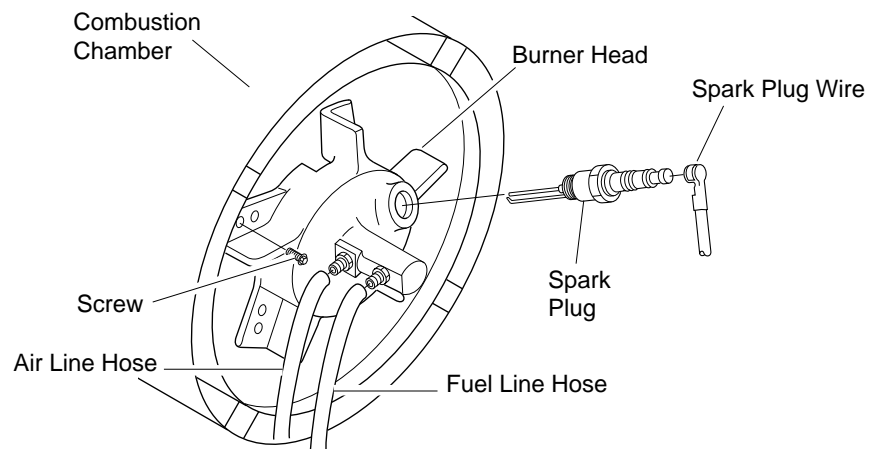

Figure 14 - Removing Burner Head
8. Carefully remove nozzle from burner head using 5/8" socket wrench (see Figure 14).